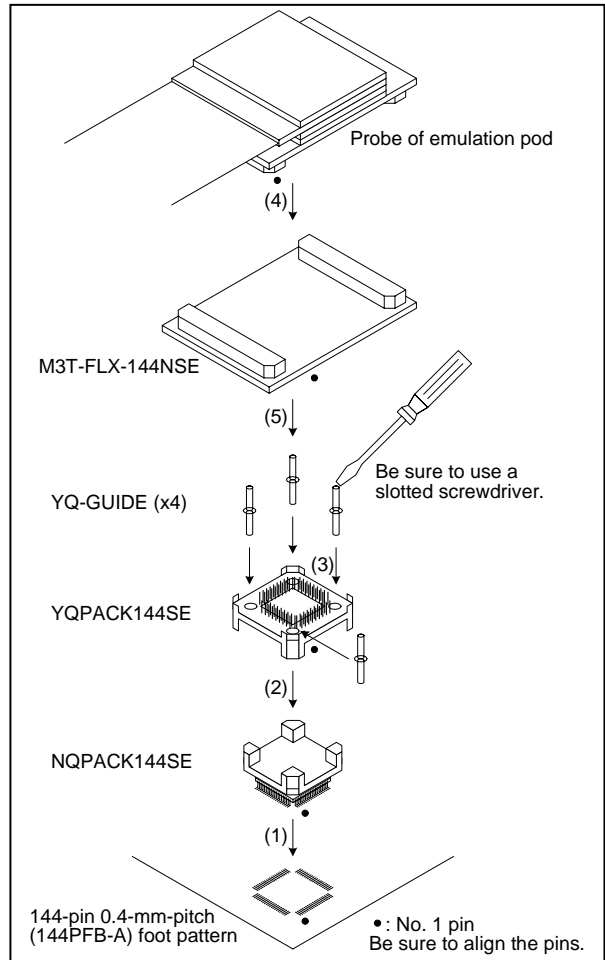

Figure 3 Connection procedure of the M3T-FLX-144NSE
5. Connection Procedure (See Figure 3)